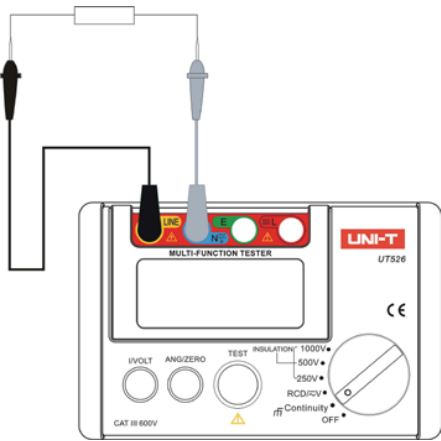

Figure 2
## VIII. Testing for Continuity(See Figure 2)
1. Connect the tested object and the Tester as shown in Figure 2;